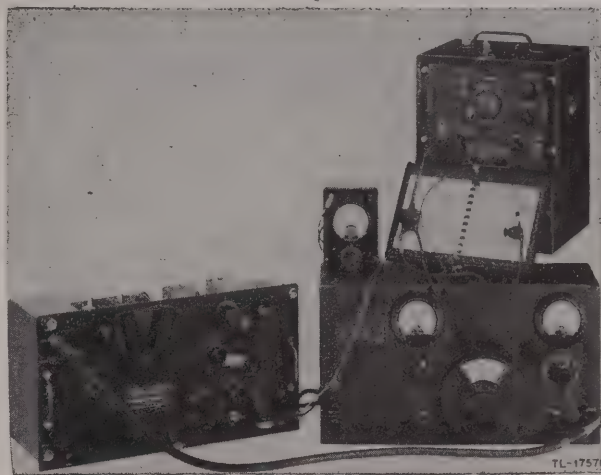

Figure 18. Final testing, typical set-up.
b. PREPARATION. (1) Set up the receiver and test equipment as shown in figure 18.
(2) Connect one lead of a 250-mmF capacity to the receiver antenna terminal and the other lead to the output lead of the signal generator.
(3) Connect the signal generator ground lead to the receiver chassis.
(4) Connect the output meter to the SPEAKER 2ND AUDIO jack. If a vacuum-tube voltmeter is used, place a 4,000-ohm noninductive resistor across the output of transformer T2; measure the output across the resistor.
(5) Turn the receiver VOL control to maximum, the OFF-M.V.C.-A.V.C. control to M.V.C., the